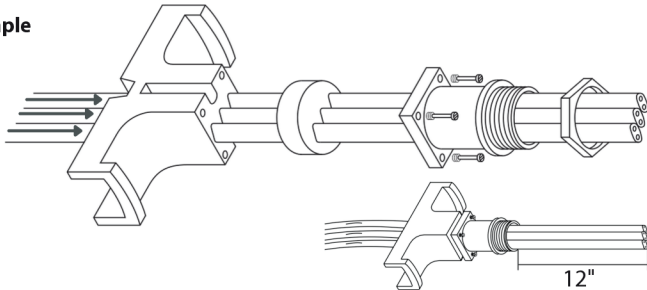

Figure 1.
1. Open the seal fitting as shown in figure 1 below. Then push with force 1, 2 or 3 heating cables through the strain relief grommet and body until approx. 12" of cable is exposed to make up cable termination.